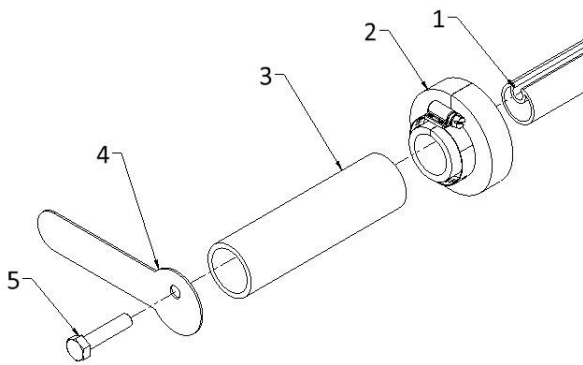

Figure 2.1
Measure the pull bar and verify that it is 12" longer than the width of the tarp. If it is too long cut it to size. On one end of the rear pull bar (1), slide on the flexible tarp collar (2), 6" plastic handle (3). At the same end, line up the mounting hole on the tarp guide (4) with the slot on the pull bar and secure it with an M10x1.5x25mm hex bolt (5). (Figure 2.1)